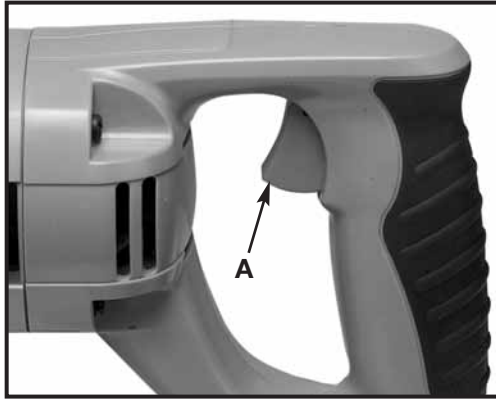

Fig. 15
2. Hold saw firmly (see Fig. 13 or Fig.14). Squeeze trigger switch (A) Fig. 15, to start motor. Release trigger to stop motor.
The saw is equipped with a variable speed control switch (A) Fig. 15 (0 to 2900 SPM). As the switch trigger is squeezed, the speed of the saw blade increases.